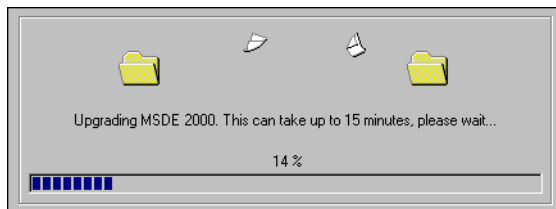

Figure 2-9. Upgrade Status
- b. After the installer has been copied to your local drive, the upgrade begins. A progress bar shows the status of the upgrade process (see Figure 2-9).